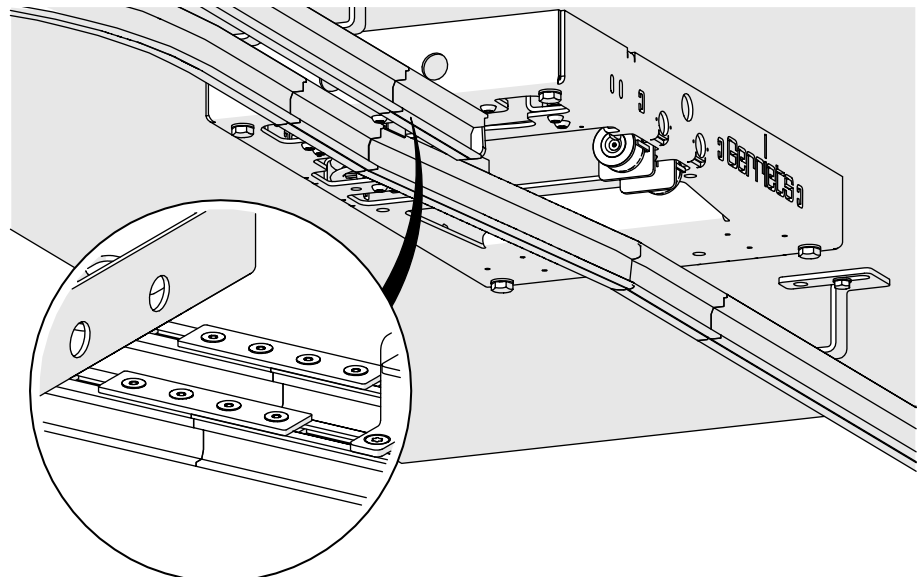

Fig. 133: Track switch – Connect track switch to track system
2. Fit the first track section to the track switch using the track splice supplied in accordance with *chapter 5.2.1 Track splice* [► p. 42] (see also Fig. 133).
3. Align the other track ends one after the other so that they are aligned with the corresponding track end of the track switch (see also Fig. 133).